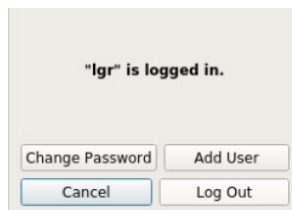

Figure 17 Security Dialog Box After Login
- 1 Click the **Security** button: The dialog box shown in Figure 17 appears.